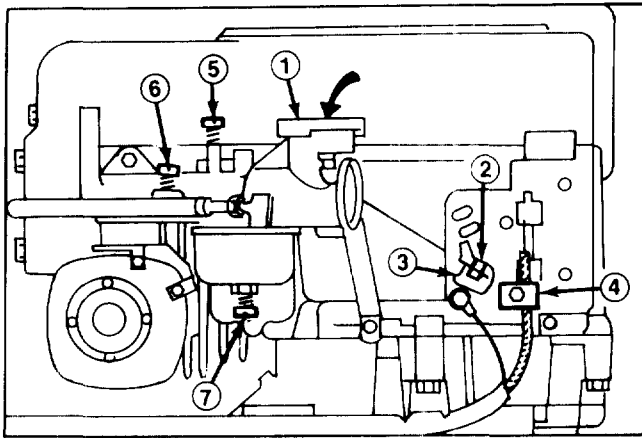

Figure 19
2. Move throttle control lever to CHOKE position and check the position of the choke butterfly; it should be fully closed (Fig. 19).
3. Move throttle control lever to FAST position. The butterfly should be in the fully open position (Fig. 19).
2. Loosen the throttle cable clamp screw (Fig. 19) and move the control cable casing and wire until the throttle lever touches link.
1. Needle Valve (Fig. 19) — Close valve by gently rotating it clockwise.
2. Rotate—open—the needle valve 2 turns counterclockwise (Fig. 19).
4. Rotate needle valve (Fig. 19) clockwise, 1/8 turn at a time, until engine starts to lose speed. Let engine react to each 1/8 turn setting.
5. Rotate needle valve (Fig. 19) counterclockwise — out — 1/8 turn at a time, until engine first runs rough. Let engine react to each 1/8 turn setting.
6. Rotate needle valve (Fig. 19) clockwise—in—very slowly until engine starts to run smoothly. This setting, under no load, may be slightly rich; however, the slightly rich setting will assure proper operation when engine is under load.